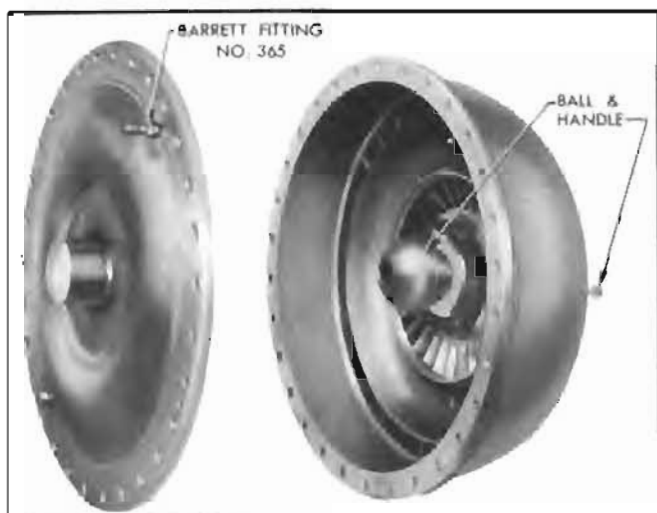

Figure 4-95—Ball and Fitting Installed for Pump Test
1. Insert tank ball in primary pump hub as shown in figure 4-95, and hold it in position with the wire handle.